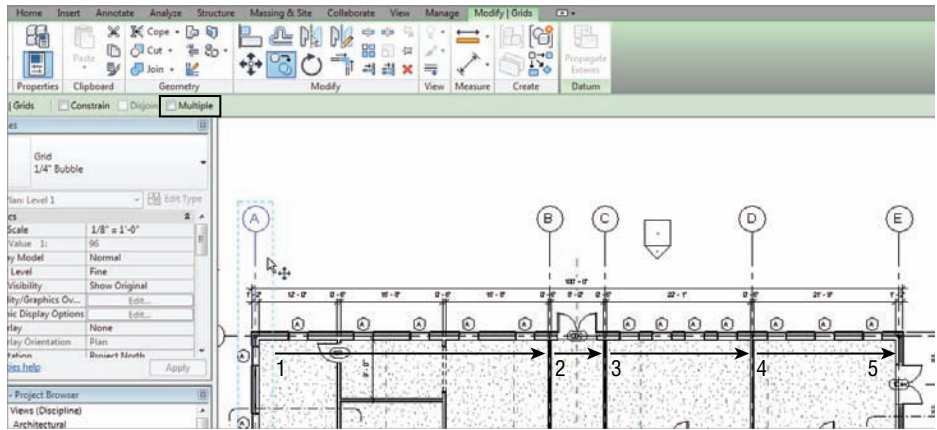

FIGURE 8.17 Copying the grid line to the other walls
2. On the Modify | Grids tab, click the Copy button, as shown at the top of Figure 8.17.
3. On the Options bar, make sure the Multiple check box is selected, as shown near the top left of Figure 8.17.
4. Pick a base point along the grid line within the wall, as shown in Figure 8.17.
5. Copy grid A to the wall centerlines, as shown in Figure 8.17. Notice that the grid lines will auto-sequence as you go.